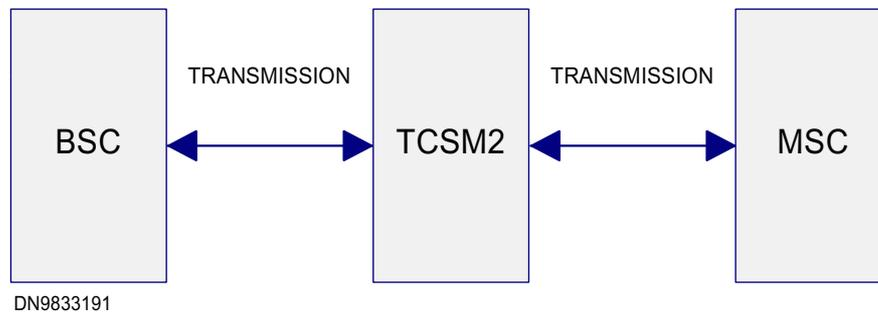

Figure 1. The operating environment of the TCSM2.
- Figure 1. The operating environment of the TCSM2. **12**